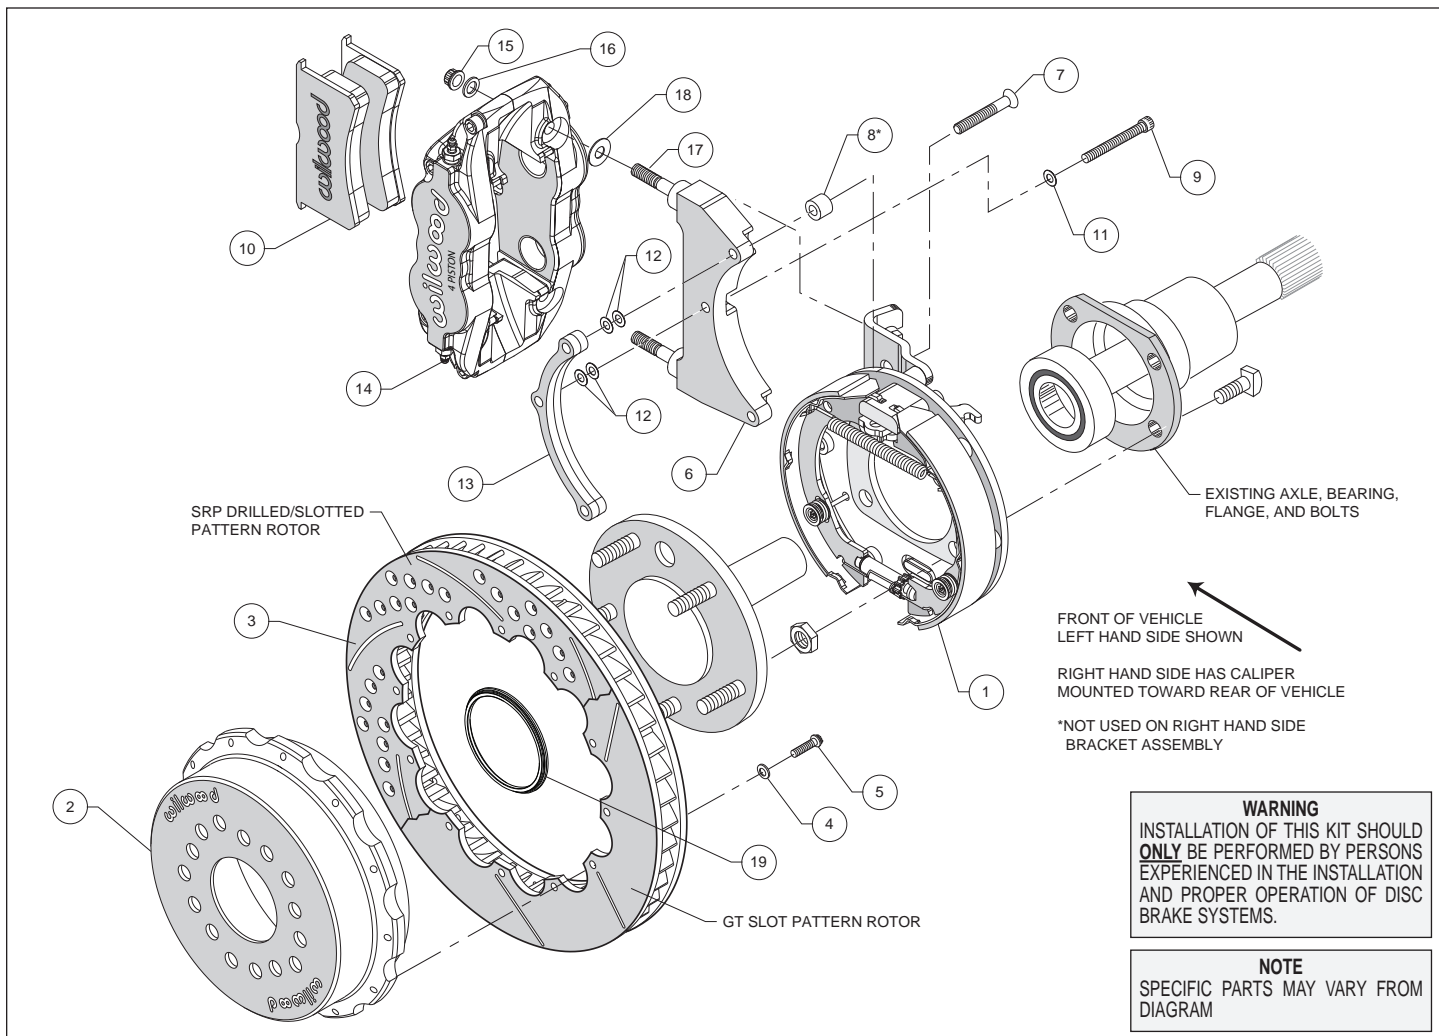
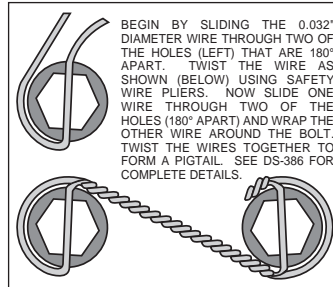

Figure 1. Typical Installation Configuration
Figure 4. Safety Wire Diagram
Assembly Instructions (numbers in parenthesis refer to the parts list and Figure 1 on the preceding pages): **CAUTION:** All mounting bolts must fully engage threaded holes.
- Orient the bracket assembly (1), as shown in Figure 1, and mount to the axle housing flange using the Original Equipment Manufacturer (OEM) bolts and nuts, Figure 1. Ensure that the bracket assembly backing plate fits flush against the axle housing flange. Apply red *Loctite*® 271 to the OEM bolt threads and torque to OEM specifications.
- **NOTE:** Please reference the caution statement at the beginning of the assembly instructions. The caliper mounting bracket assembly (6) should initially be installed with clean, dry threads on the mounting bolts. **NOTE:** The caliper bracket must tighten squarely against the back side of the bracket kit assembly (1). The ends of the bolts should not exceed inside face of insert. Later, after the caliper alignment has been checked, the mount bolts will be secured using red *Loctite*® 271.
Left Hand Side - Orient the left hand bracket (6) and 3-hole spacer (13) as shown in Figure 1 and Photo 1, and install using bolts (9) and washers (11) in the middle and lower hole locations, Figure 1. Use bolt (7) in the upper hole with spacer (8) placed between the bracket (6) and the cable stop bracket, Photo 1. Initially place two .015" shim washers (12) on each of the three bolts between the bracket and 3-hole spacer, Figure 1. Temporarily tighten the mounting bolts.
- Orient the rotor (3) and the hat (2) as shown in Figure 1 and Photo 3. Attach rotor to hat using bolts (5) and washers (4). Using an alternating sequence, apply red *Loctite*® 271 to the threads, and torque to 155 **in-lbs**. For an added measure of security, the bolts may be safety wired using standard 0.032 inch diameter stainless steel safety wire as shown in Figure 4. Please refer to Wilwood's data sheet DS-386 (available at www.wilwood.com/Pdf/DataSheets/ds386.pdf) for complete safety wire installation instructions.
- Slide the rotor registration adapter (19) onto the axle register on the axle flange with the smaller O.D. facing toward the rotor/hat (2/3), Photo 4. Align the correct hole pattern in the hat with the stud pattern on the axle flange and slide into place, Figure 1 and Photo 5. **NOTE:** The rotor/hat must fit flush against the axle flange or excessive rotor run out may result. Install three lug nuts (finger tight) to keep the rotor/hat assembly in place while continuing with the installation. **NOTE:** Some OEM and after market axles come with stud sizes larger than 0.50" diameter. Verify stud size and have a qualified machine shop drill the bolt circle of the hat/rotor to the correct stud size, if necessary.
- Lubricate the caliper mounting studs (17) with lightweight oil. Initially place one .035" thick shim (18) on each stud as shown in Figure 1 and Photo 6. Mount the caliper (14) onto the bracket (6) using lock nuts (15) and washers (16), Figure 1. Temporarily tighten the lock nuts and view the rotor through the top opening of the caliper. The rotor should be centered in the caliper, Photo 7. If not, adjust by adding or subtracting shims (12) between the bracket (6) and the 3-hole spacer (13). Always use the same amount of shims on each of the three mounting bolts. Once the caliper alignment is correct, remove the bracket mounting bolts (7 and 9) one at a time, apply red *Loctite*® 271 to the threads, and torque to 180 **in-lb**.